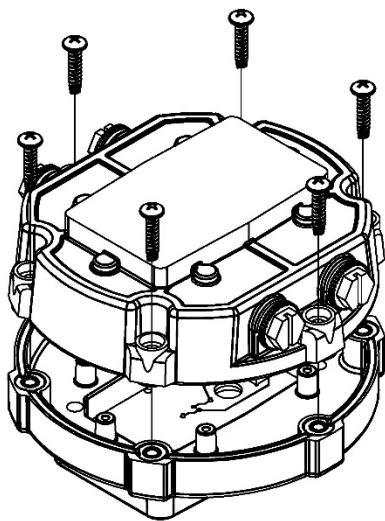

Figure 9
- Remove (6) screws retaining the cover plate to the base and lift the cover plate free of the meter body (see Figure 9).